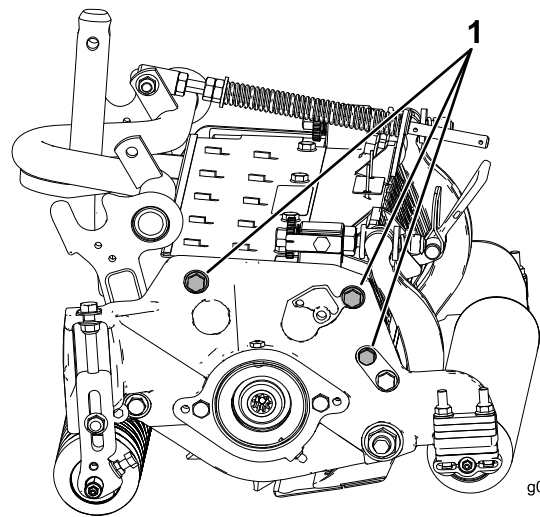

**Figure 15**
1. Adjust the rear roller brackets (Figure 15) to the desired height-of-cut range by positioning the required amount of spacers below the side-plate mounting flange (Figure 15) per the HOC Chart.